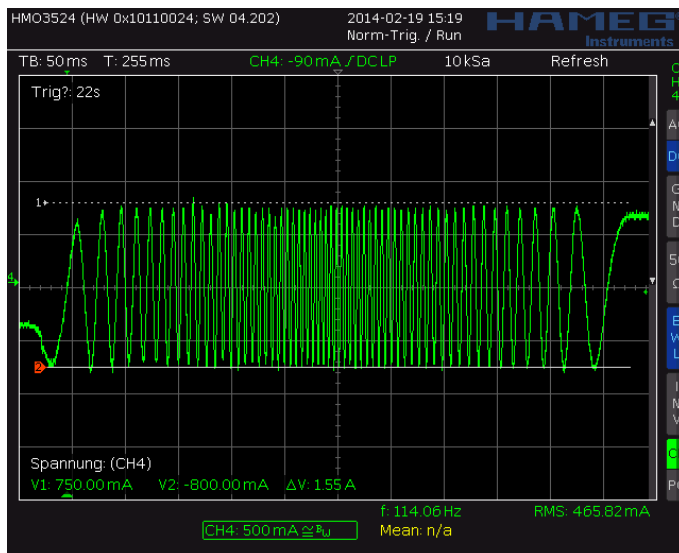
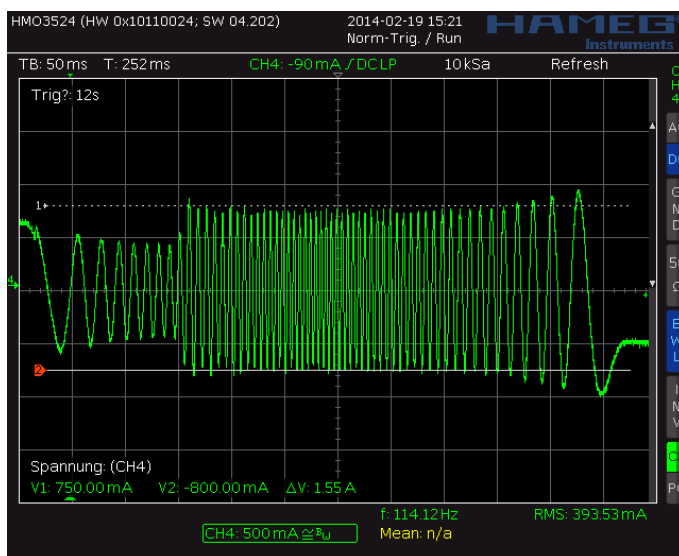
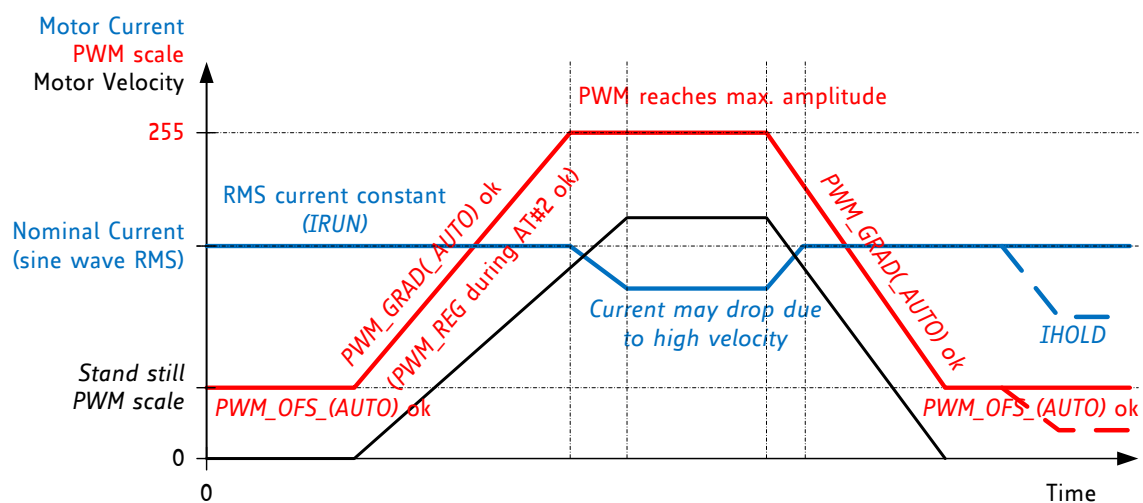

Figure 6.3 Scope shot: good setting for PWM_REG
Figure 6.4 Scope shot: too small setting for PWM_REG during AT#2
Figure 6.5 Successfully determined PWM_GRAD(AUTO) and PWM_OFS(AUTO)
In stealthChop voltage PWM mode, the autoscaling function (*pwm_autoscale* = 1, *pwm_autograd* = 1) regulates the motor current to the desired current setting. Automatic scaling is used as part of the automatic tuning process (AT), and for subsequent tracking of changes within the motor parameters. The driver measures the motor current during the chopper on time and uses a proportional regulator to regulate *PWM_SCALE_AUTO* in order match the motor current to the target current. *PWM_REG* is the proportionality coefficient for this regulator. Basically, the proportionality coefficient should be as small as possible in order to get a stable and soft regulation behavior, but it must be large enough to allow the driver to quickly react to changes caused by variation of the motor target current (e.g. change of *VREF*). During initial tuning step AT#2, *PWM_REG* also compensates for the change of motor velocity. Therefore, a high acceleration during AT#2 will require a higher setting of *PWM_REG*. With careful selection of homing velocity and acceleration, a minimum setting of the regulation gradient often is sufficient (*PWM_REG*=1). *PWM_REG* setting should be optimized for the fastest required acceleration and deceleration ramp (compare Figure 6.3 and Figure 6.4). The quality of the setting *PWM_REG* in phase AT#2 and the finished automatic tuning procedure (or non-automatic settings for *PWM_OFS* and *PWM_GRAD*) can be examined when monitoring motor current during an acceleration phase Figure 6.5.